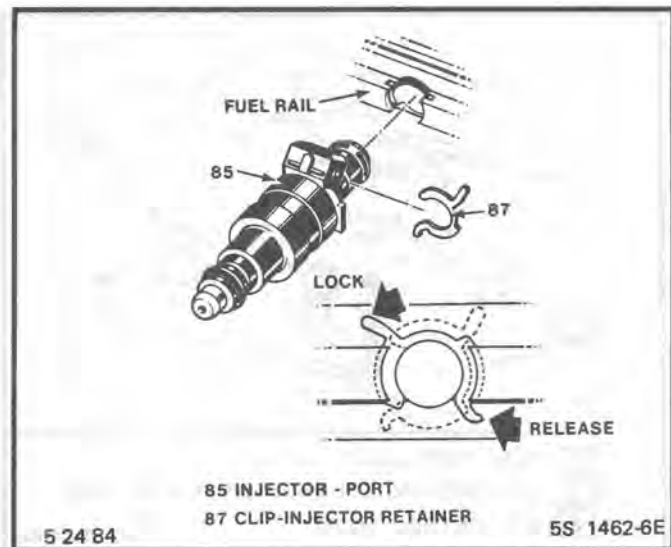

Figure C2-16 Port Injectors with Injector Retaining Clips
### Fuel Injectors (With Fuel Rail Removed) (Figure C2-16)
Each port injector is located and held in position by a retainer clip that must be rotated to release and/or lock the injector in place, as shown in Figure C2-16.
3. Rotate injector retainer clips (87) to locking position (Figure C2-16).